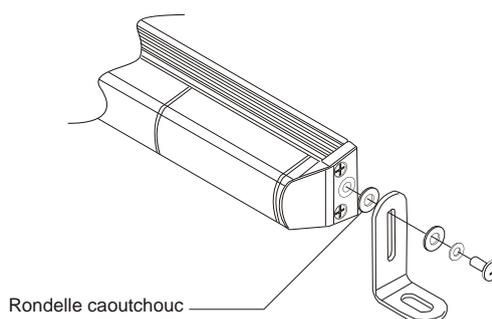

Figure 4. Montage des fixations
4. MONTAGE DES FIXATIONS TDWL24 - TDWL36 (Figure 4.)